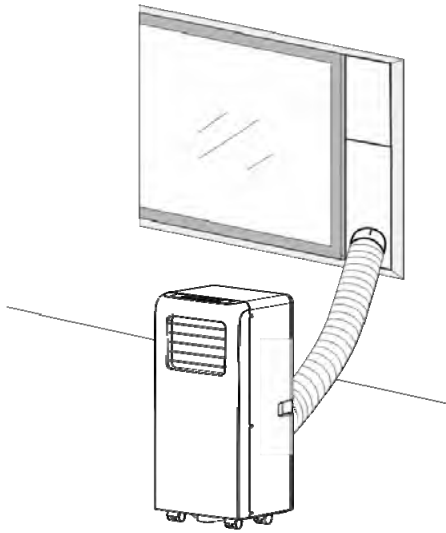
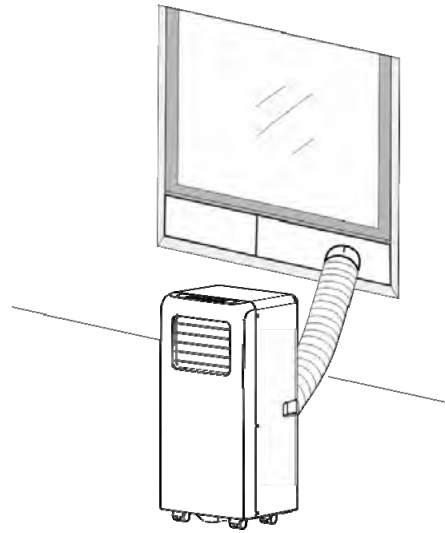

Fig.2
Fig.2a
- 2) As shown in Fig.2 and Fig.2a, install the exhaust hose, and adjust the window position well.